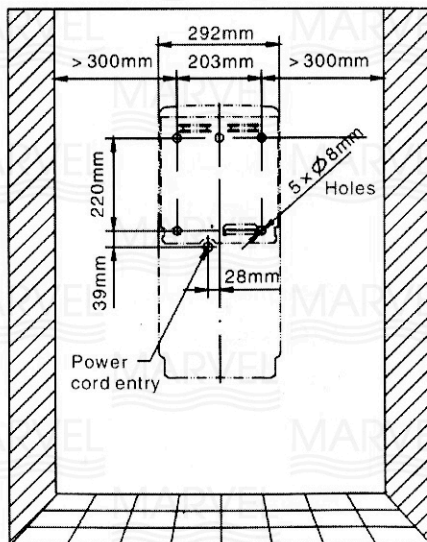

fig.3
2. Place template against wall at desired height (see RECOMMENDED MOUNTING HEIGHTS) and mark locations of 5 mounting holes and power cord entry at knockout location (see fig.3).
4. Fix hanger board to the wall by using the screws and wall plugs included (see fig.3).